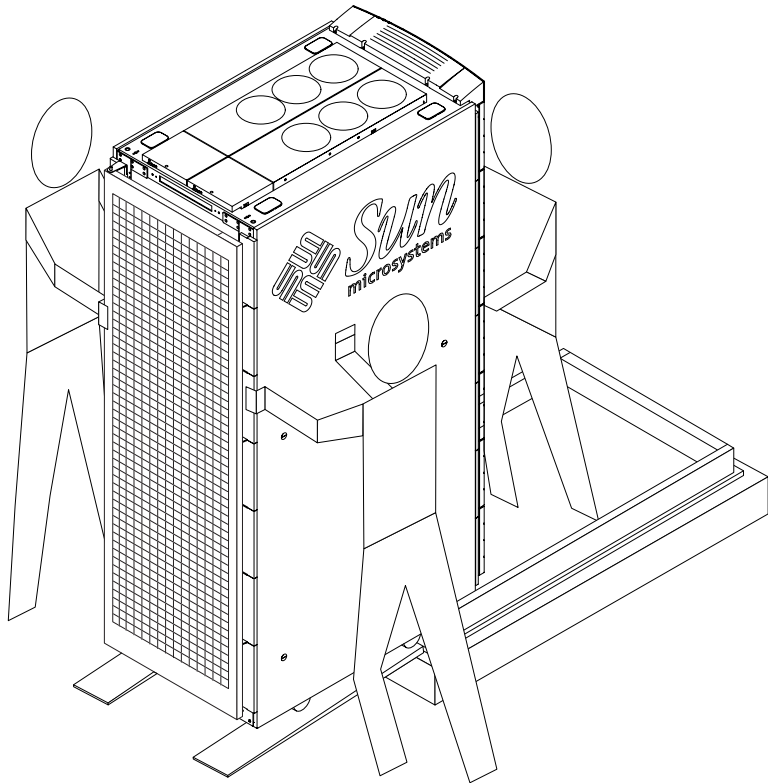

FIGURE 3-5 Moving the Sun Fire Cabinet Off the Shipping Pallet
9. Move the cabinet carefully down the ramps (FIGURE 3-5).